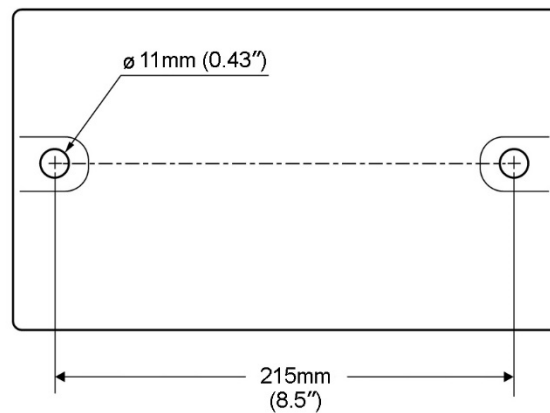

Figure 4-1: IBG-8VSB hole centers
1. Align mounting holes on buffer with predrilled holes in a bench or stand. Figure 4-1 shows hole centers for mounting.